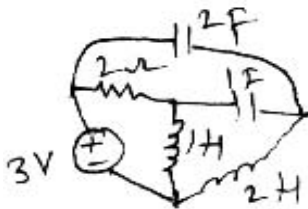

Fig. 1
- c) Draw oriented graph of a circuit in figure 1 and find its f-cut set matrix. 6